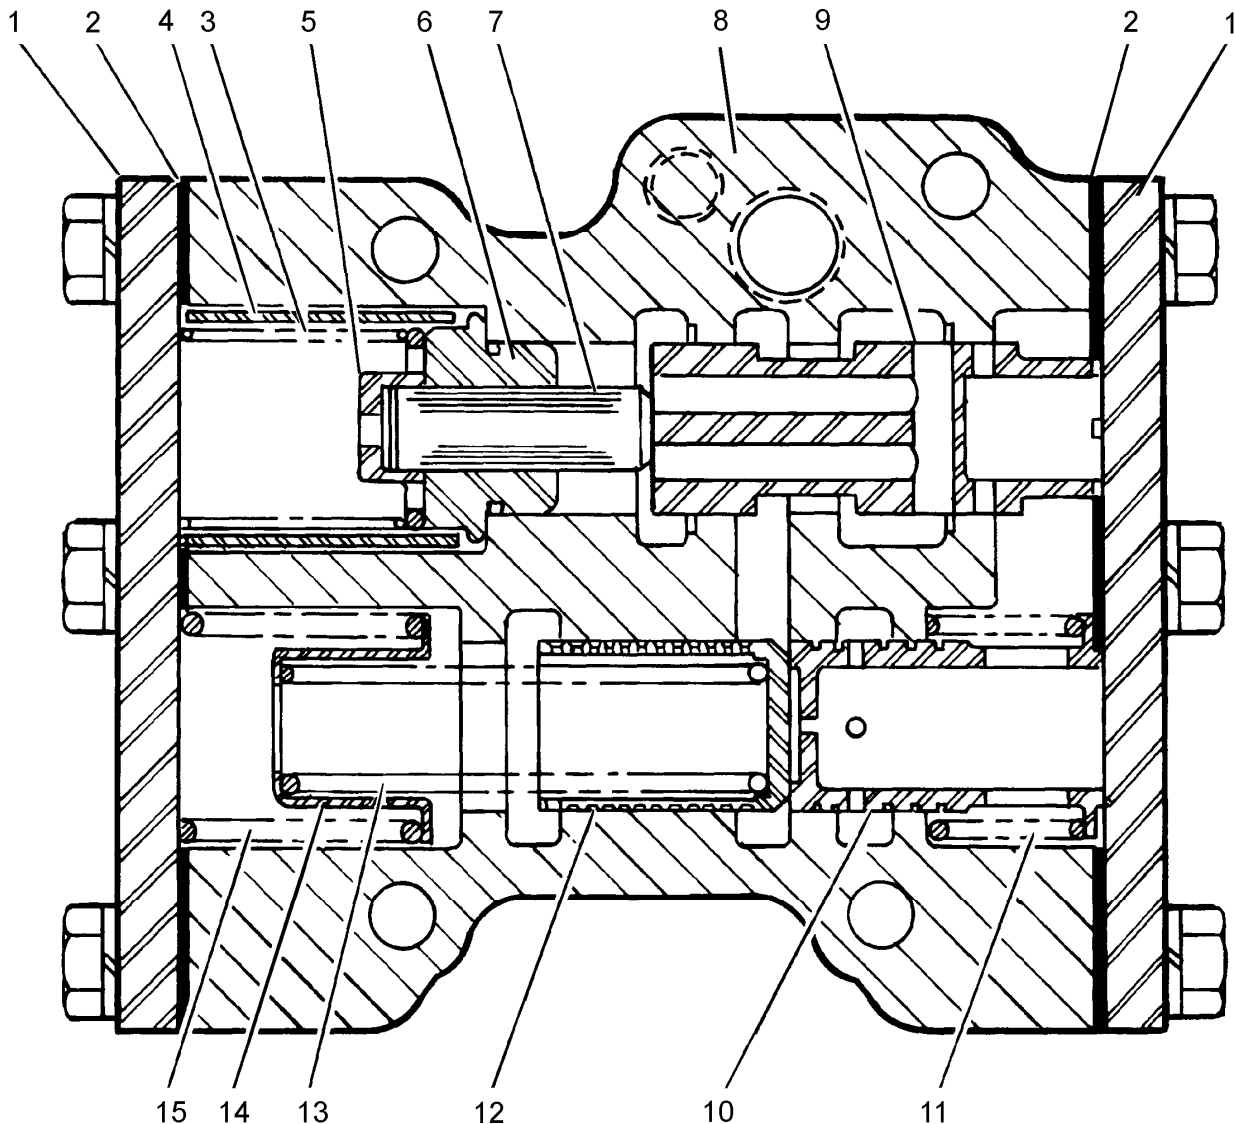

Fig. 7C.14. Cross Section of Rate of Rise Valve
15. REMOVAL AND DISASSEMBLY (Refer to Fig. 7C.14 and 7C.15)